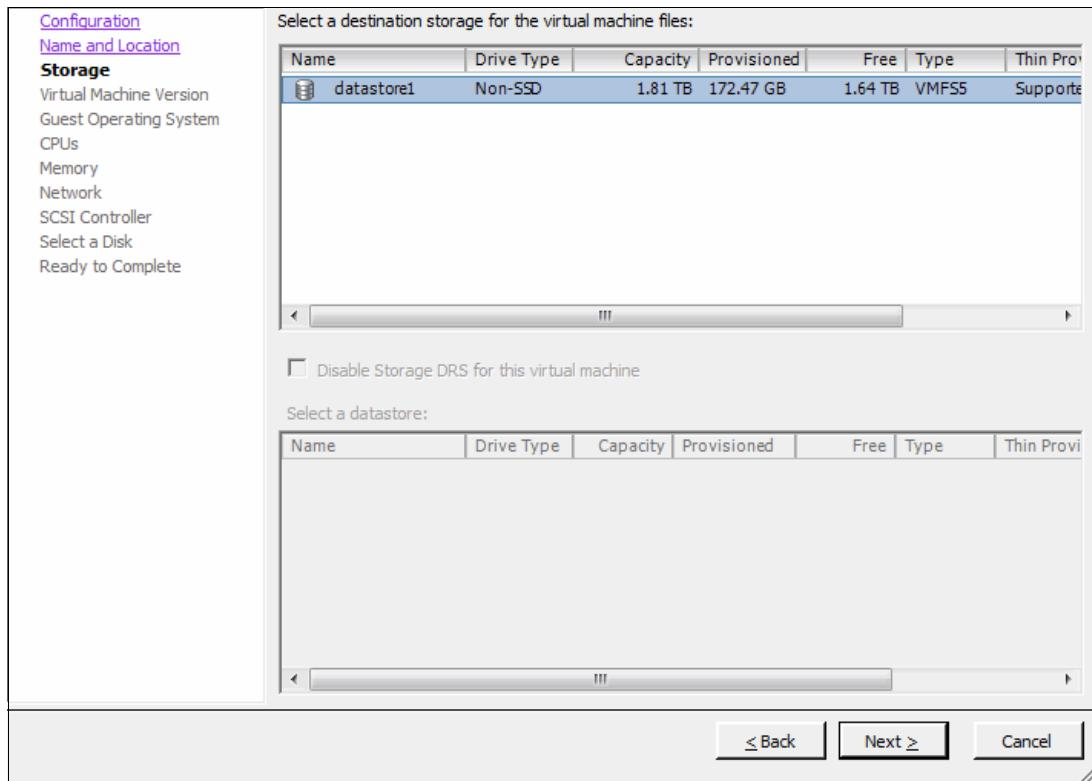

Figure 3-6 Select the storage datastore
4. Select the appropriate storage datastore (Figure 3-6) and click **Next**.